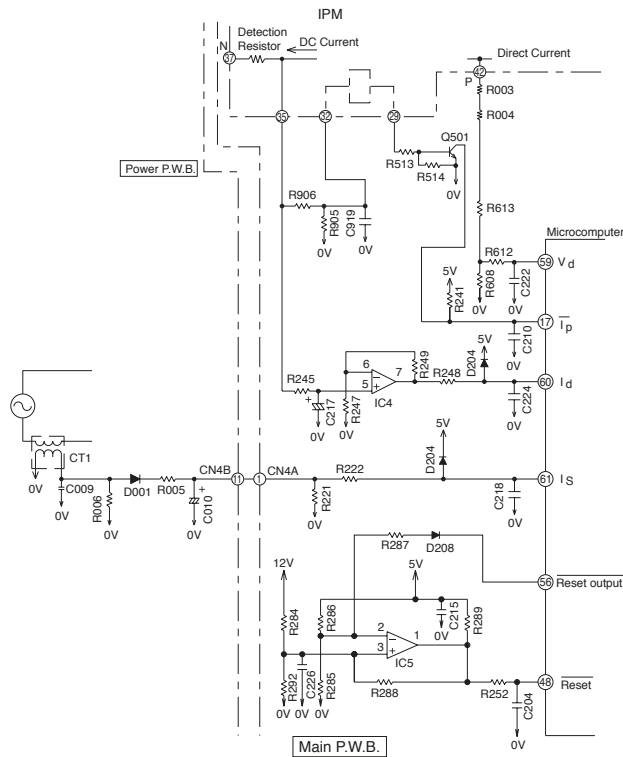

Fig. 6-2
ID OVL is watching and limits the compressor current through the detection resistor, which is built in IPM in order to control the compressor reliability. Since the compressor reliability is related with its speed, the ID OVL value is also linked with the compressor speed. Fig. 6-2 shows an ID OVL limitation curve.
(2) ID OVL
Fig. 6-2. The filter consisting of R245 and C217 removes high harmonic frequencies from the voltage generated by the current flowing to Detection resistor; R245 and C217 average the voltage. This voltage is then input to IC4 pin ⑤ and supplied to microcomputer pin ⑩. The microcomputer compares this input with the set value, and if the input exceeds the set value, it enters overload control status.